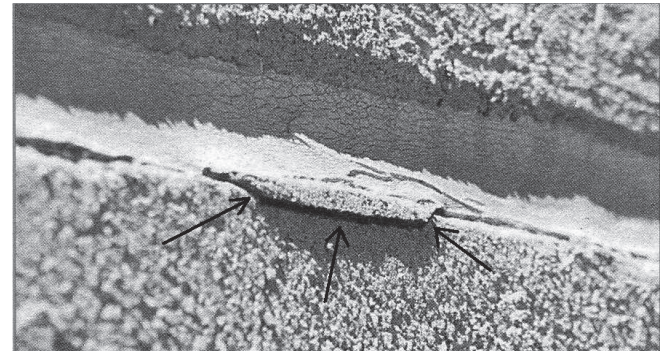

FIGURE 3.8 - SUBSTRATE FAILURE
C) Substrate failure (Figure 3.8) is when the substrate ruptures or degrades at or near the sealant bond line. The sealant remains adhered to the substrate, but the substrate separates from itself.